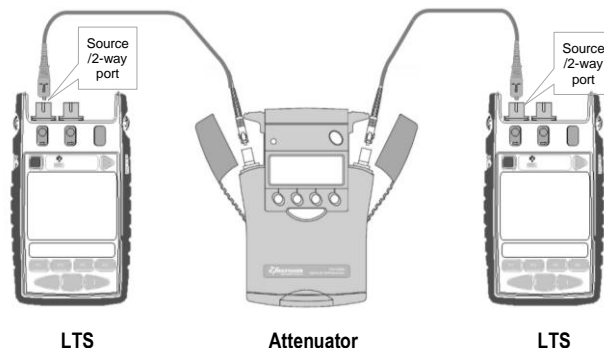

Figure 13. Test set up for Two Way Range and Linearity Test
1. Connect the equipment as shown in Figure 13.